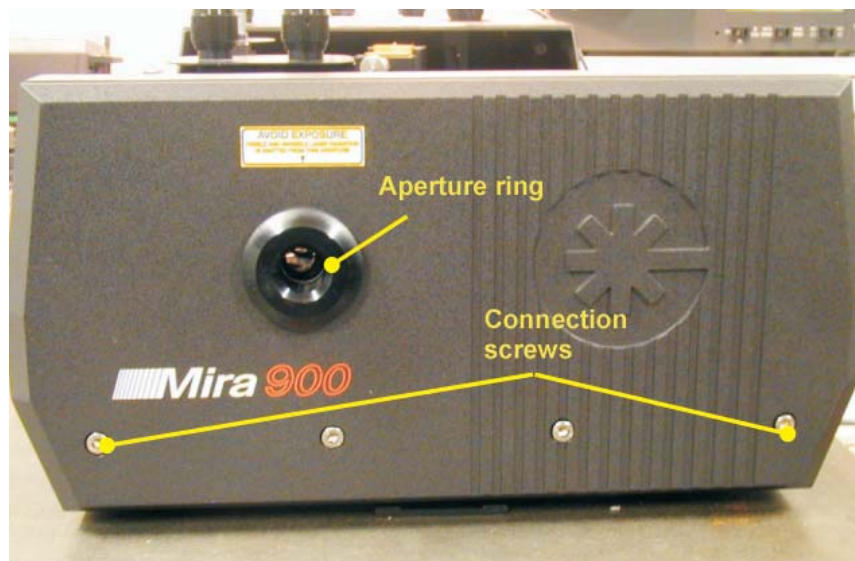
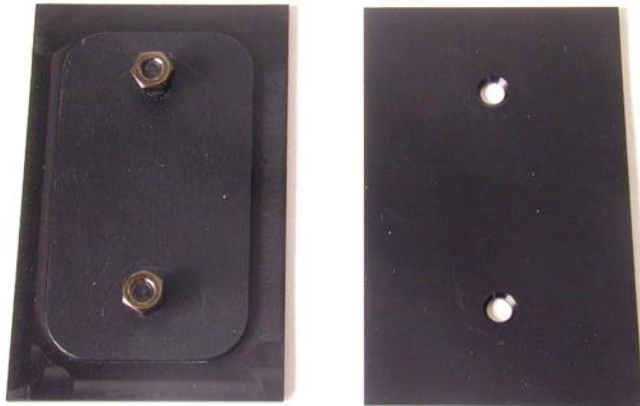

Fig. 10 Mira front side with output aperture and connection screws
Fig. 11 Lid for slit hole in the Mira cover
3. Close the hole in the Coherent Mira cover, which is normally used for the slit, with the lid provided, see Fig. 11. Remove the output beam aperture ring of the Mira (the black ring on the outside of the Mira housing, Fig. 10). Remove the two outer connection screws (Fig. 10) from the cover.